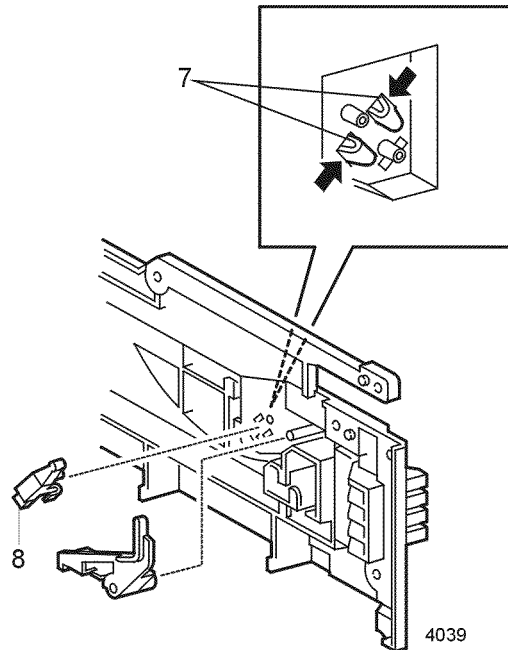

Figure 1 MBF Assembly Position Sensor
7. Remove the two screws and remove the cover (Figure 1).
8. Release the locking tabs and remove the sensor from the Guide Assembly (Figure 1).